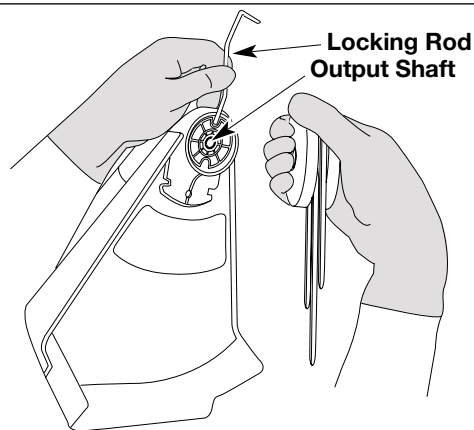

Fig. 12
3. Grip the sides of the Flail Head with the Adaptor facing your palm and the Flail Head top facing the unit. Screw the Flail Head clockwise onto the shaft (Fig. 12) until the Flail Head is on securely. Do not over tighten.
1. Align the blade driver hole with the locking rod slot and insert the locking rod into the blade driver hole, Fig. 12.